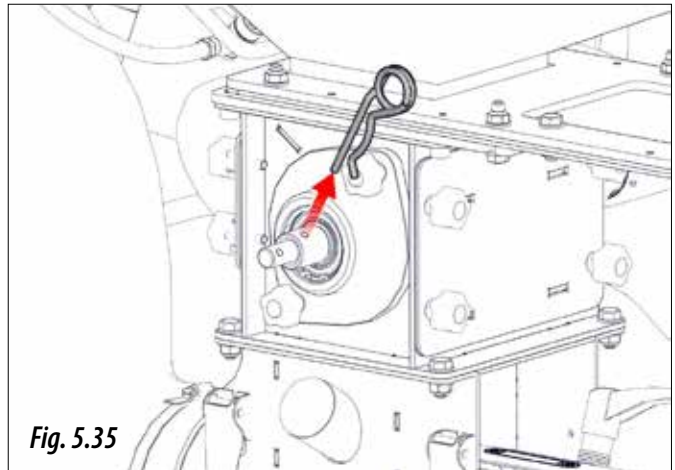

Fig. 5.35
4.B.1- Pull out the "R" pin (Fig. 5.35).